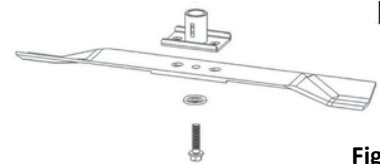

Fig. 8
1. Unscrew the central screw and remove the washer (Fig. 8).